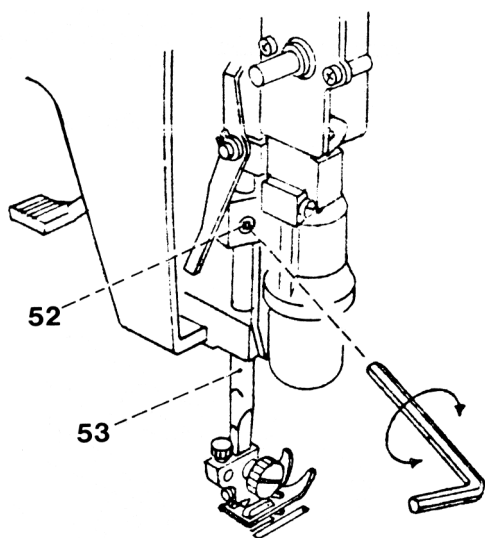

Fig. 15
- Loosen screw 52 with a 2.0 mm Allen key (fig. 15).